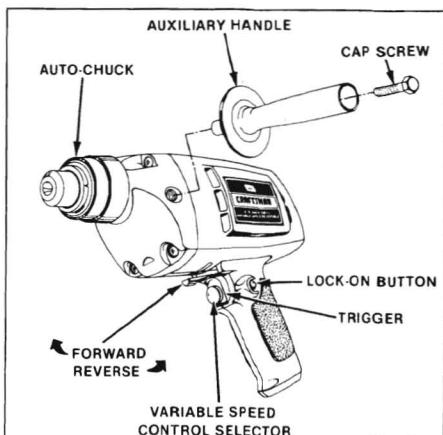

Fig. 1
Your electric drill has the feature of being reversible. The direction of rotation is controlled by a lever located above the trigger switch. See Figure 1. With drill held in normal operating position, the direction of rotation lever should be positioned to the right of the switch for drilling. The drill direction is reversed when the lever is to the left of the switch. THE DESIGN OF THE SWITCH WILL NOT PERMIT CHANGING DIRECTION OF ROTATION WHILE DRILL IS RUNNING. RELEASE THE SWITCH TRIGGER AND ALLOW THE DRILL TO STOP BEFORE CHANGING ITS DIRECTION. **NOTE: THE TOOL WILL NOT RUN UNLESS THE SWITCH LEVER IS PUSHED FULLY TO LEFT OR RIGHT.**
2. Check the direction of rotation lever for correct setting (forward or reverse). See Figure 1. Move direction of rotation lever to "forward".
Your electric drill has a variable speed control selector designed to allow operator control of speed and torque limits. See Figure 1. To increase the speed and torque of your electric drill, hold your drill in normal operating position and turn the variable speed control selector counterclockwise. Turn clockwise to decrease the speed and torque of your electric drill. If you desire to lock the switch on at a given speed, pull the trigger of the switch, push in the lock button located on the side of the handle, then while holding the lock button pushed in release the trigger. Next, adjust the variable speed control selector until the desired speed is reached. **NOTE: IF THE VARIABLE SPEED CONTROL SELECTOR IS FULLY TURNED IN THE CLOCKWISE DIRECTION, YOUR DRILL MAY NOT RUN.**
2. Check the direction of rotation lever for correct setting (forward or reverse). See Figure 1. The direction of rotation lever on the switch should be in its maximum forward position when installing bits. It should be in its maximum reverse position when removing bits.